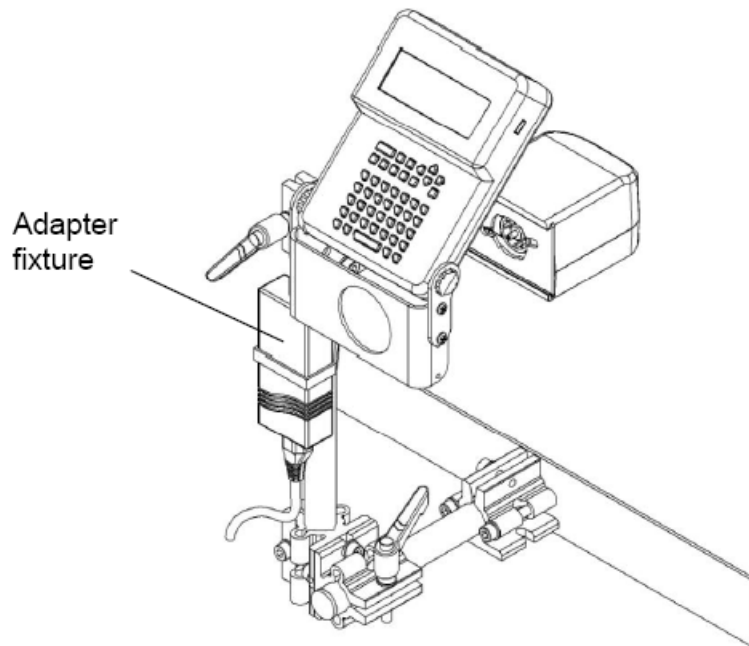

Figure 3-15: Adapter Fixture
**Note:** Before printing, fix the power supply adapter with the cable tie provided by Videojet, or the customized brace, as shown in Figure 3-15 on page 3-12. This holds the cord in position and reduces the strain on the power cord connector.